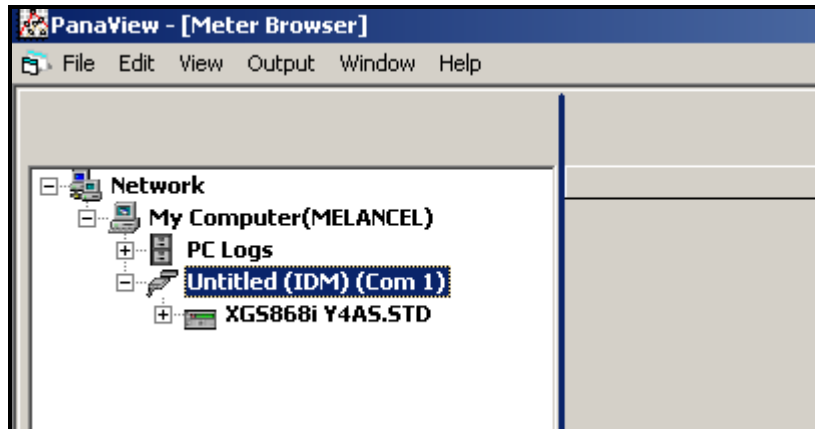
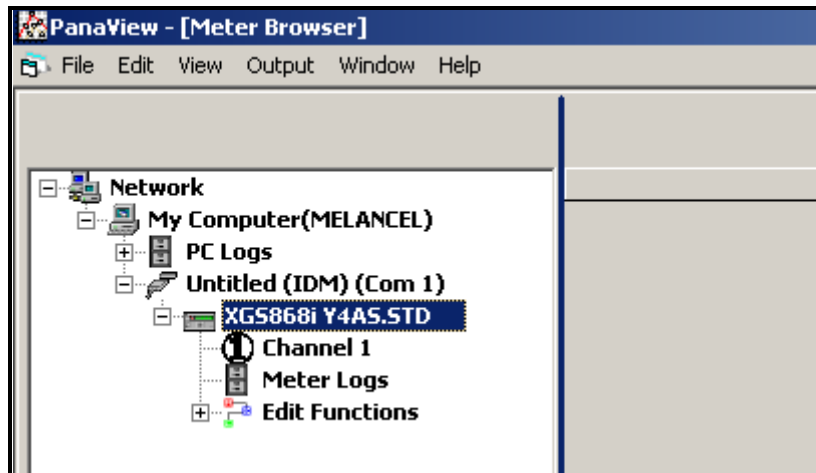

Figure C-6: The Updated Network Tree
Figure C-8: Meter Tree with *Edit Functions* Option
If the initialization is successful, the *Meter Browser* shows a listing similar to Figure C-6 below.
1. From the meter tree in the *New Meter Browser* (shown in Figure C-6 on the previous page), click on the XGS entry. The screen now appears similar to Figure C-8 below.